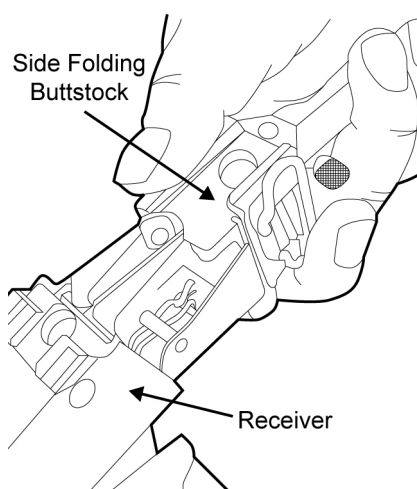

Figure 55. Installing the Side Folding Buttstock into the Rear of the Receiver.
- e. Install the side folding buttstock into the rear of the receiver. Refer to Figure 55.